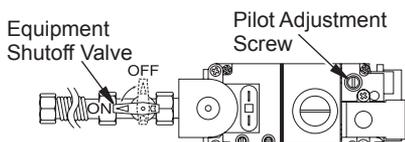

Figure 34 - Turning Equipment Shutoff Valve to the OFF Position
5. Turn equipment shutoff valve clockwise to the OFF position (see Figure 34, page 22). Do not force.
- Turn the adjustment screw marked PILOT clockwise to decrease or counterclockwise to increase the flame to proper size (see Figure 34). Do not remove the adjustment screw.